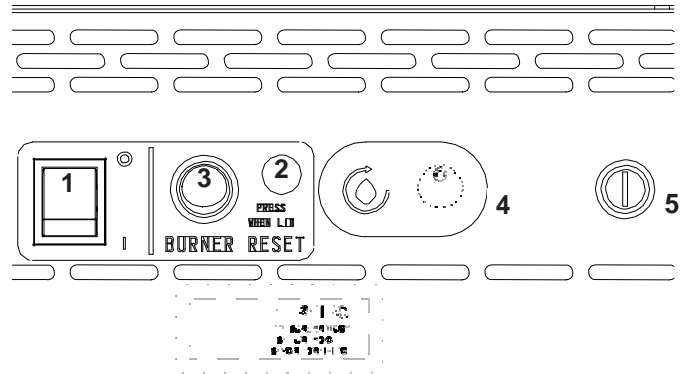

Figure 3 - Additional Controls
2.4.2 G3840 & G3840F - Additional Controls (See Figure 3)
7. Neon next to burner switch inside door will illuminate to indicate lockout has occurred and that no burner flame is present. G3840 / G3840F Additional controls - Item 2 on Figure 3.
9. Press lockout reset switch. See Figure 3 (*Lock out indicator will extinguish*).
In the case of operating thermostat failure, allowing oil temperature to rise above predetermined legislation safe zone (*230°C*), limit device will activate and cut power to controller. It will also stop the flow of gas to burner, refer to Figure 3.
- c) Reset red button on limit thermostat with a pen or similar item, refer to Figure 3.